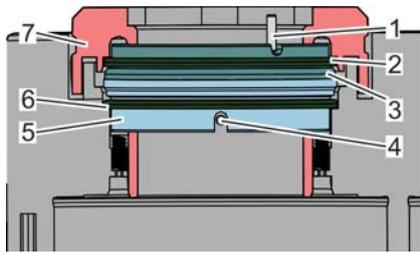

Fig. 126: Rotating slide ring sealing part, sectional view
19. ▶ Insert the rotating slide ring sealing parts (Fig. 126/7) with slide rings (Fig. 126/3) until there is a noticeable counterpressure.
! The O-ring (Fig. 126/2) will sit between the rotating slide ring sealing part (Fig. 126/7) and the slide ring (Fig. 126/3). The force needed for this must be overcome. The mentioned counterpressure is then generated by the counter ring (Fig. 126/5); it is not possible to press any further.